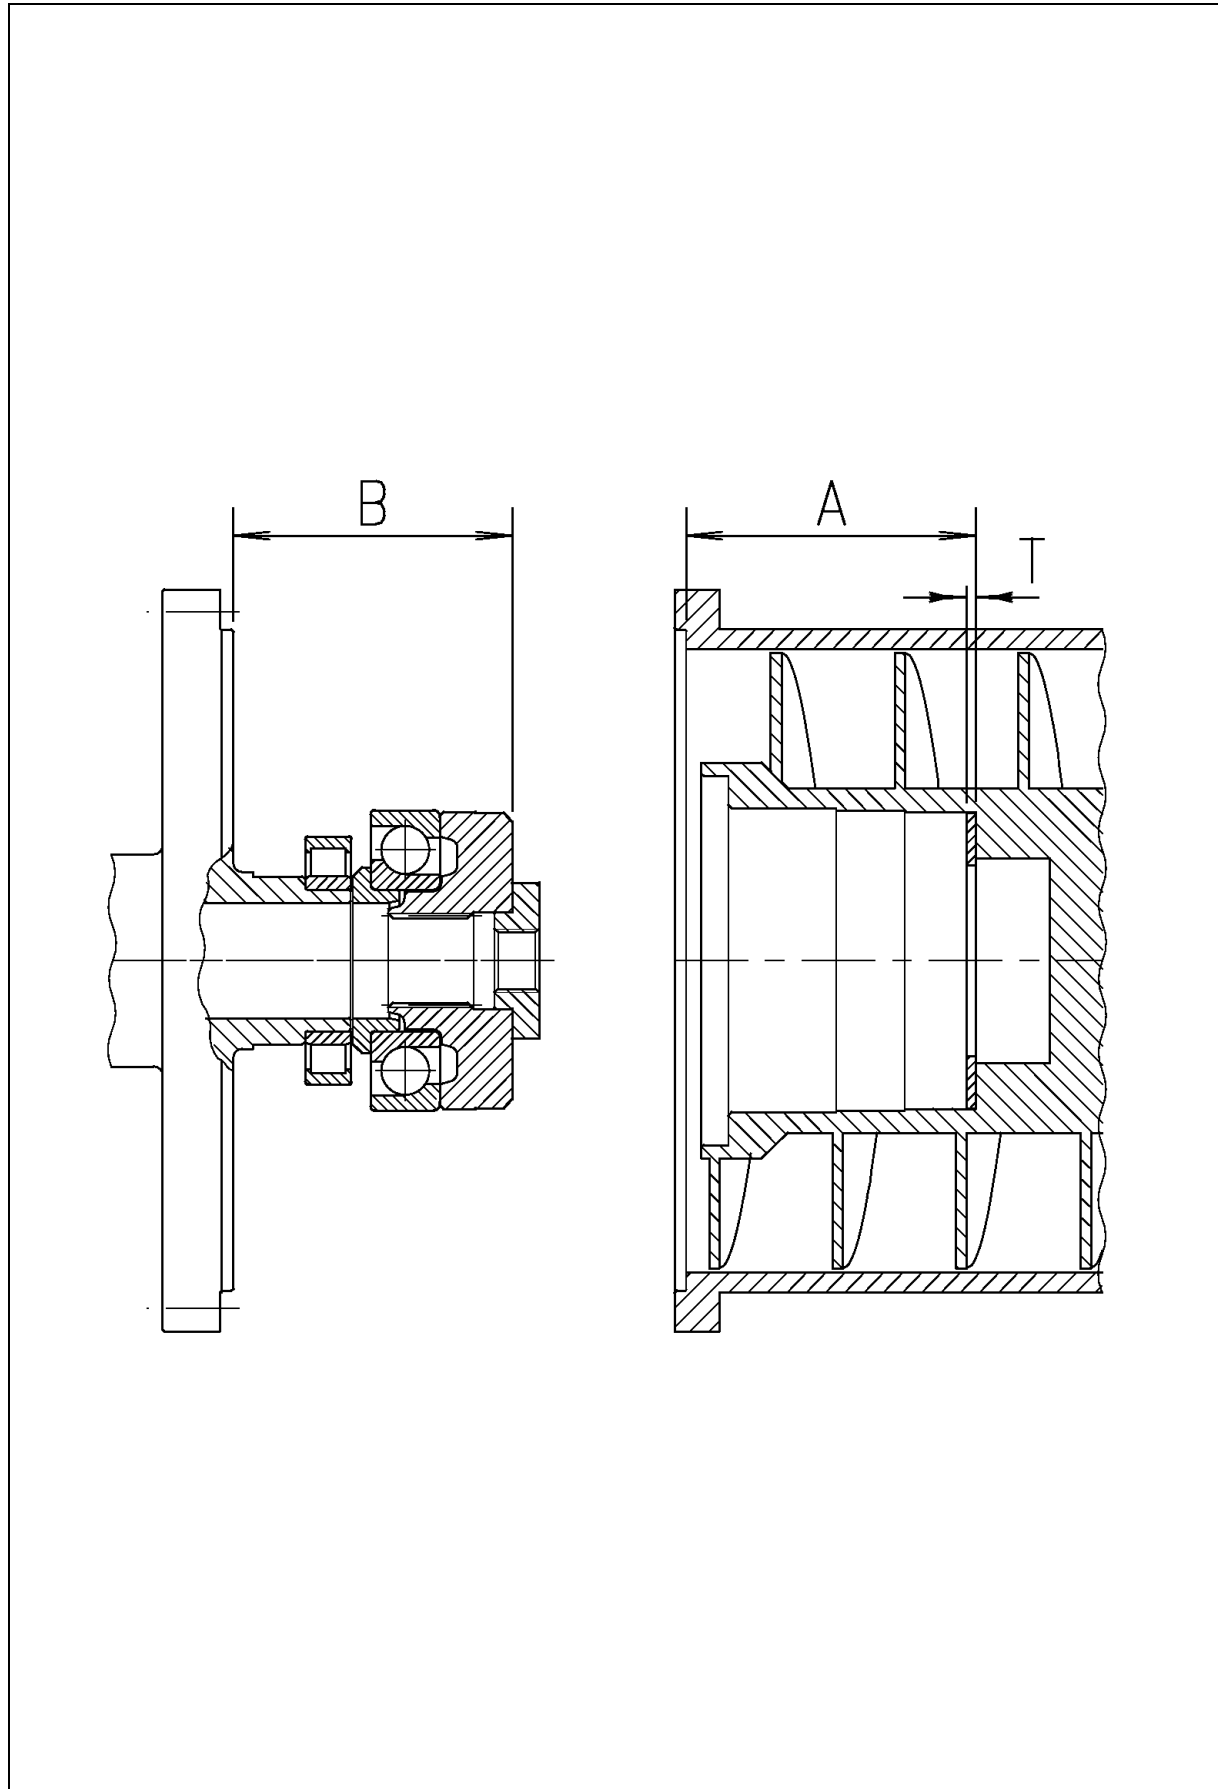

Figure 4.4.4
4.4.3 Axial Adjustment of Conveyor (Fig. 4.4.4)
Measure the distance A from the bowl contact face for the large end hub to the bottom of the bearing bore in the conveyor as shown in Figure 4.4.4. Note down the result.
Measure the distance B from the large end hub contact face for the bowl to the splined bushing as shown in Figure 4.4.4. Note down the result.